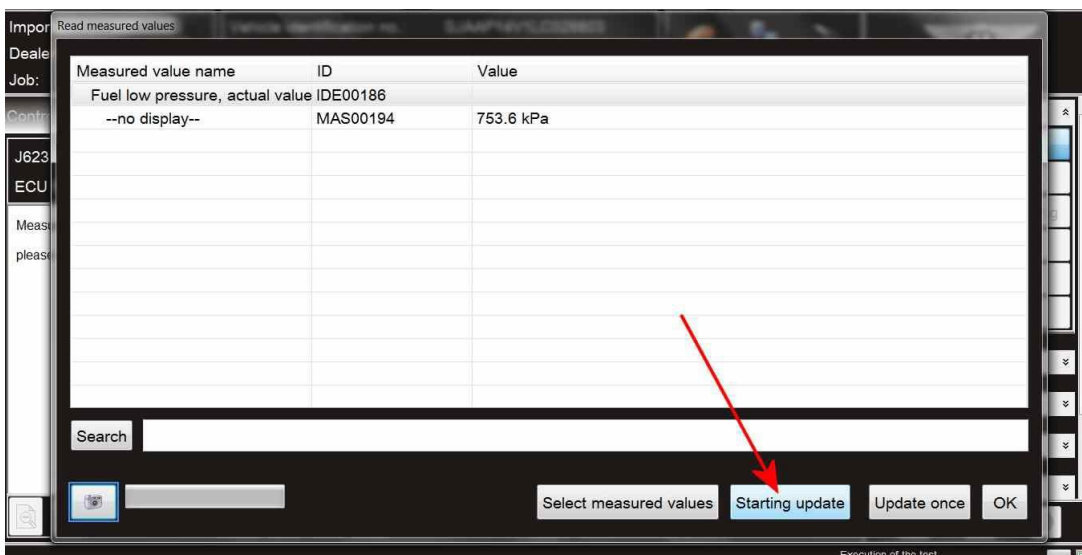

Figure 3
- Referring to Figure 3 – Select Starting update